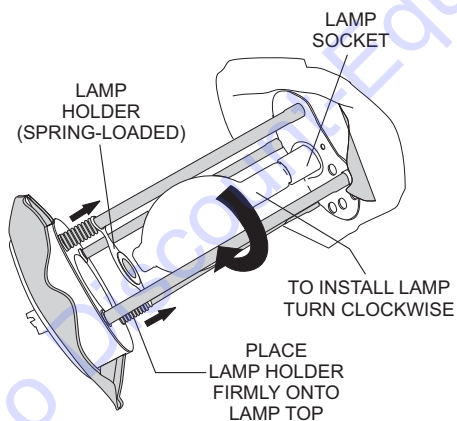

Figure 22. Installing the Lamp
1. When installing a new lamp (Figure 22) use only MQ recommended type lamp. See parts section of this manual. Failure to use correct type lamp could adversely affect lighting capability and may cause damage to the equipment.